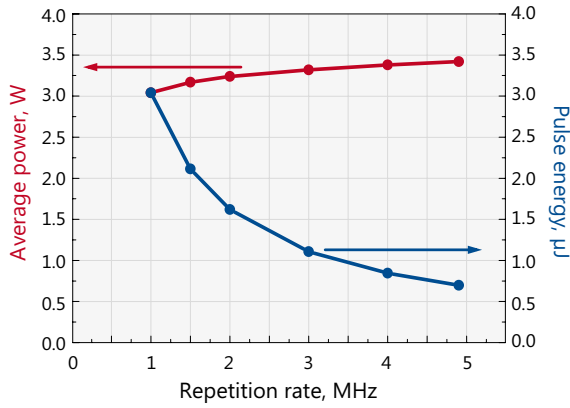
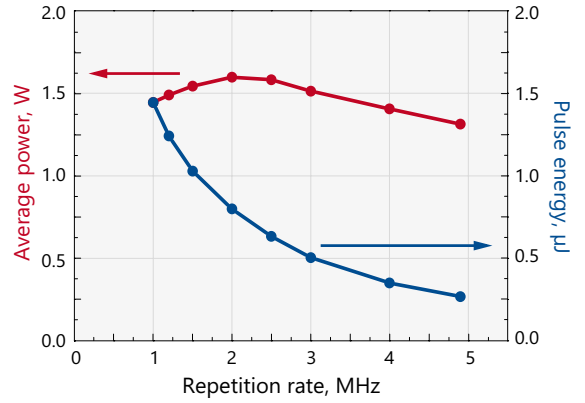

Fig 1. Typical dependence of output power and pulse energy of FemtoLux 3 laser at 1030 nm when changing internal repetition rate of the laser
Fig 2. Typical dependence of output power and pulse energy of FemtoLux 3-GR laser at 515 nm on pulse repetition rate
2) See typical power and energy curves for other pulse repetition rates at Fig 1., Fig 2. and Fig 4.